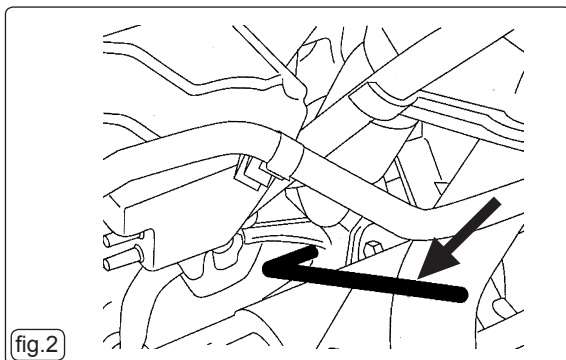

fig.2
- 3.3.1 Insert VS4830-F6 Locking Pin in to the flywheel to 'set' the crankshaft position (fig.2) prior to 'locking' in place with the Flywheel Locking Tool VS4831.